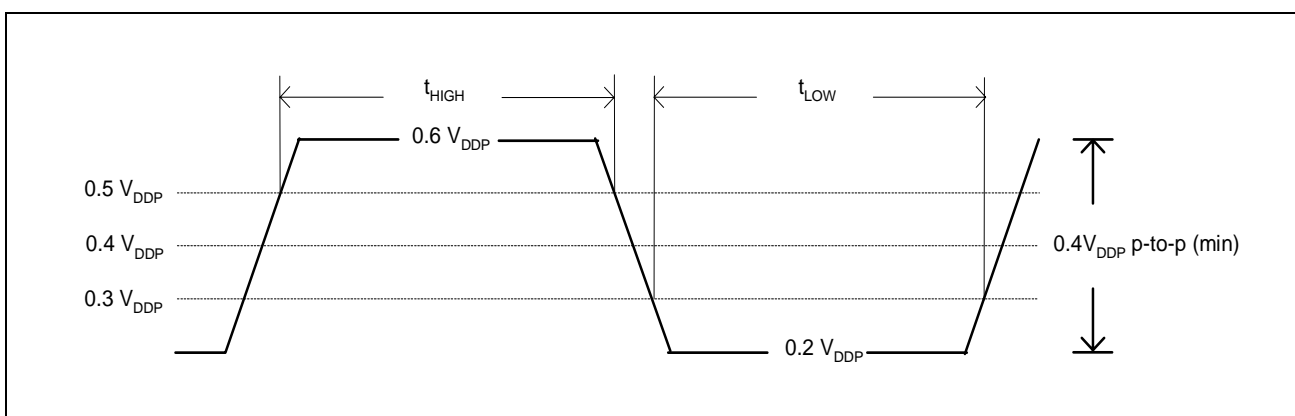

Figure 42 Clock Specification
2) Rise and fall times are specified in terms of the edge rate measured in V/ns. This slew rate must be met across the minimum peak-to-peak portion of the clock waveform as shown in Figure 42.